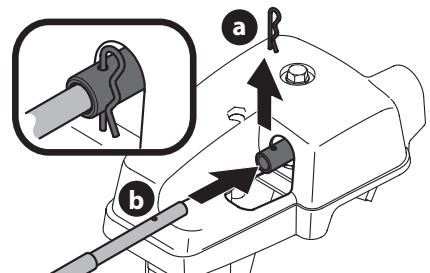

Figure 29
4. Remove hairpin clip (a) from rear of chute control head (Figure 29).
5. Insert flex shaft (b) into rear of chute control head and secure with hairpin clip (a) removed in Step 4 (Figure 29).